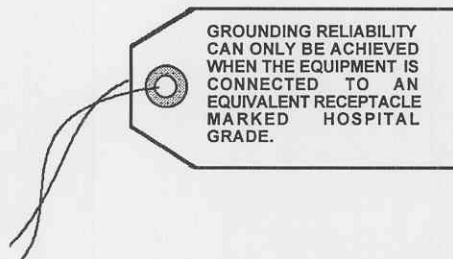

Figure 1-7. Cardboard instruction tag.
(5) A cardboard tag (fastened to the electrical power cable assembly) providing electrical information is depicted in figure 1-7.